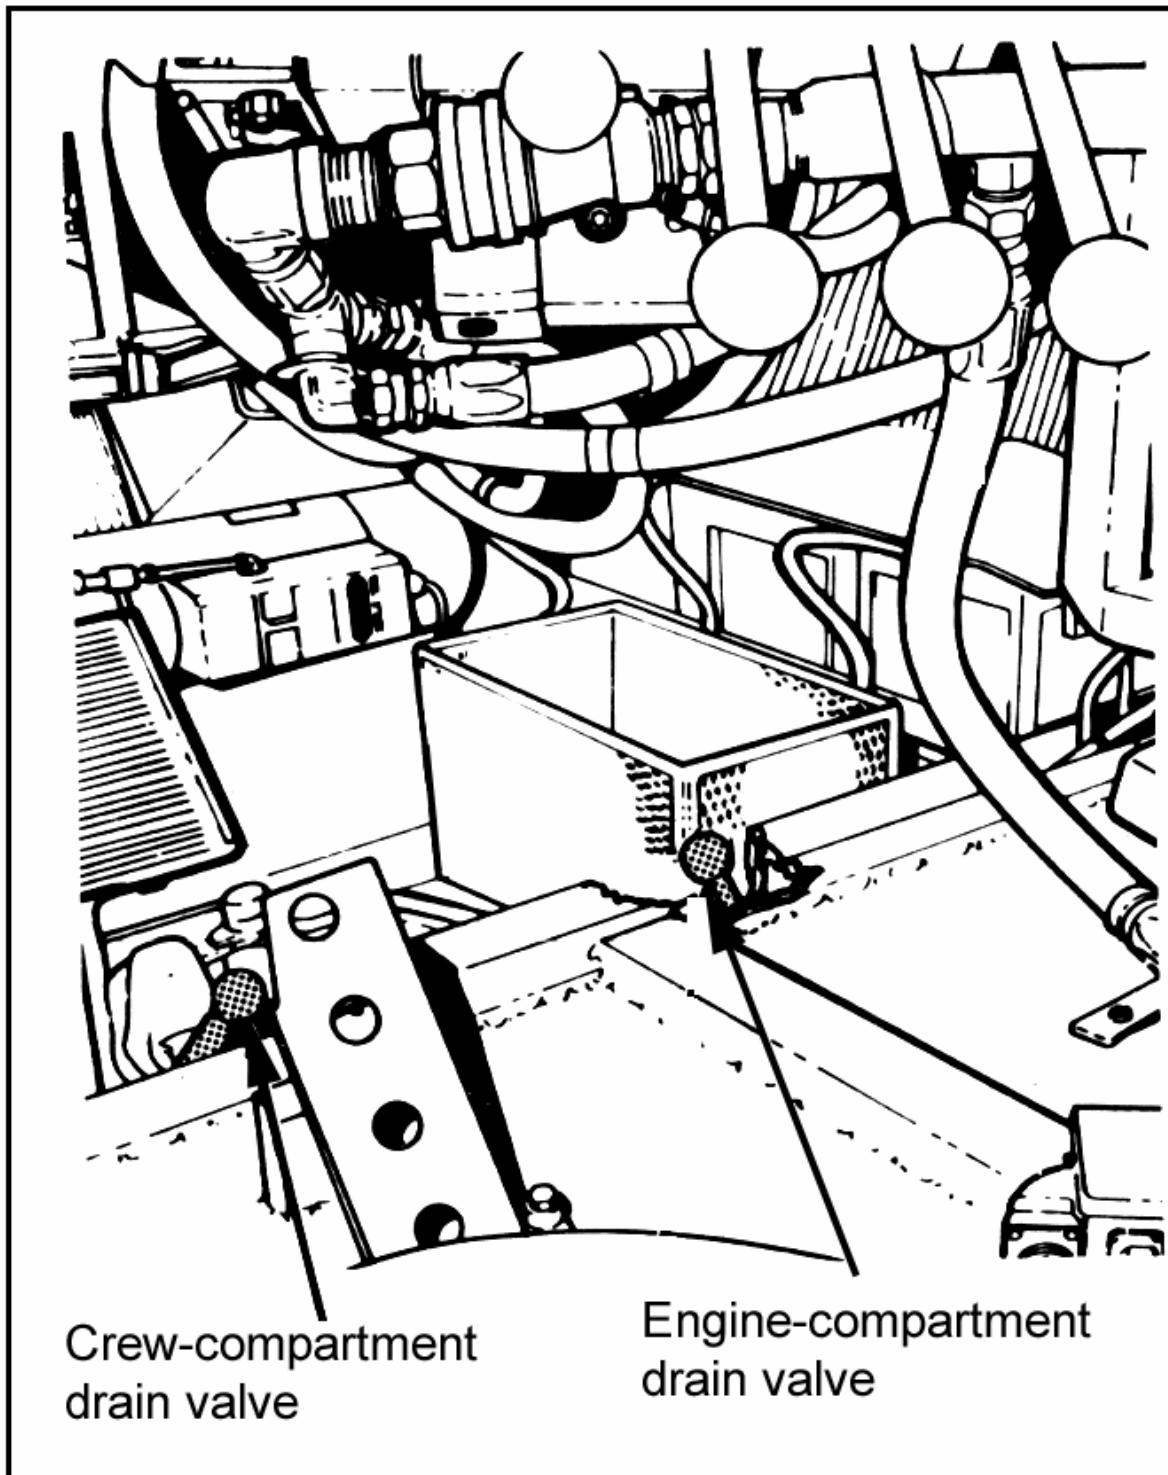

Figure 052-225-1214-1
**Conditions:** As an AVLB operator in a field environment, given an operational AVLB (an M48 or M60 series tank) with a completed before-operation preventive-maintenance checks and services (PMCS) and a prepared operator's station. The track commander (TC) has given the order to start the engine.
**CAUTION:** DO NOT SET THE PARKING BRAKE WHEN THE TEMPERATURE FALLS BELOW 30 DEGREES FAHRENHEIT (F).
2. Close the drain valves in the crew and the engine compartments (Figure 052-225-1214-1).